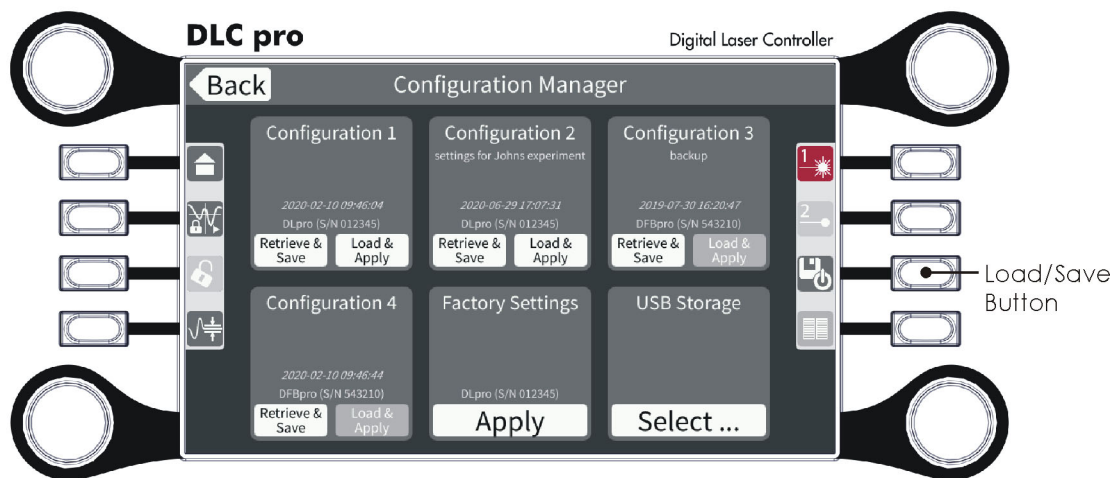

Figure 48 Configuration Manager
- Press the **Load/Save** button twice or tap the corresponding symbol twice to quickly store the most important settings of the parameter menu (please refer to section 5.12) to the flash memory of the DLC pro. Storing the settings is possible on any screen. Tap Back on the Configuration Manager screen (see Figure 48) to return to the previous screen. The stored parameters are immediately active and also loaded upon the next restart of the DLC pro.